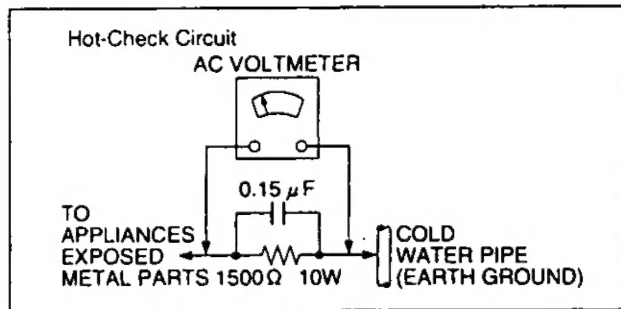

Figure 1
LEAKAGE CURRENT HOT CHECK (See Figure 1)
2. Connect a $1.5k\Omega$, $10W$ resistor, in parallel with a $0.15\mu F$ capacitor, between each exposed metallic part on the set and a good earth ground such as a water pipe, as shown in Figure 1.